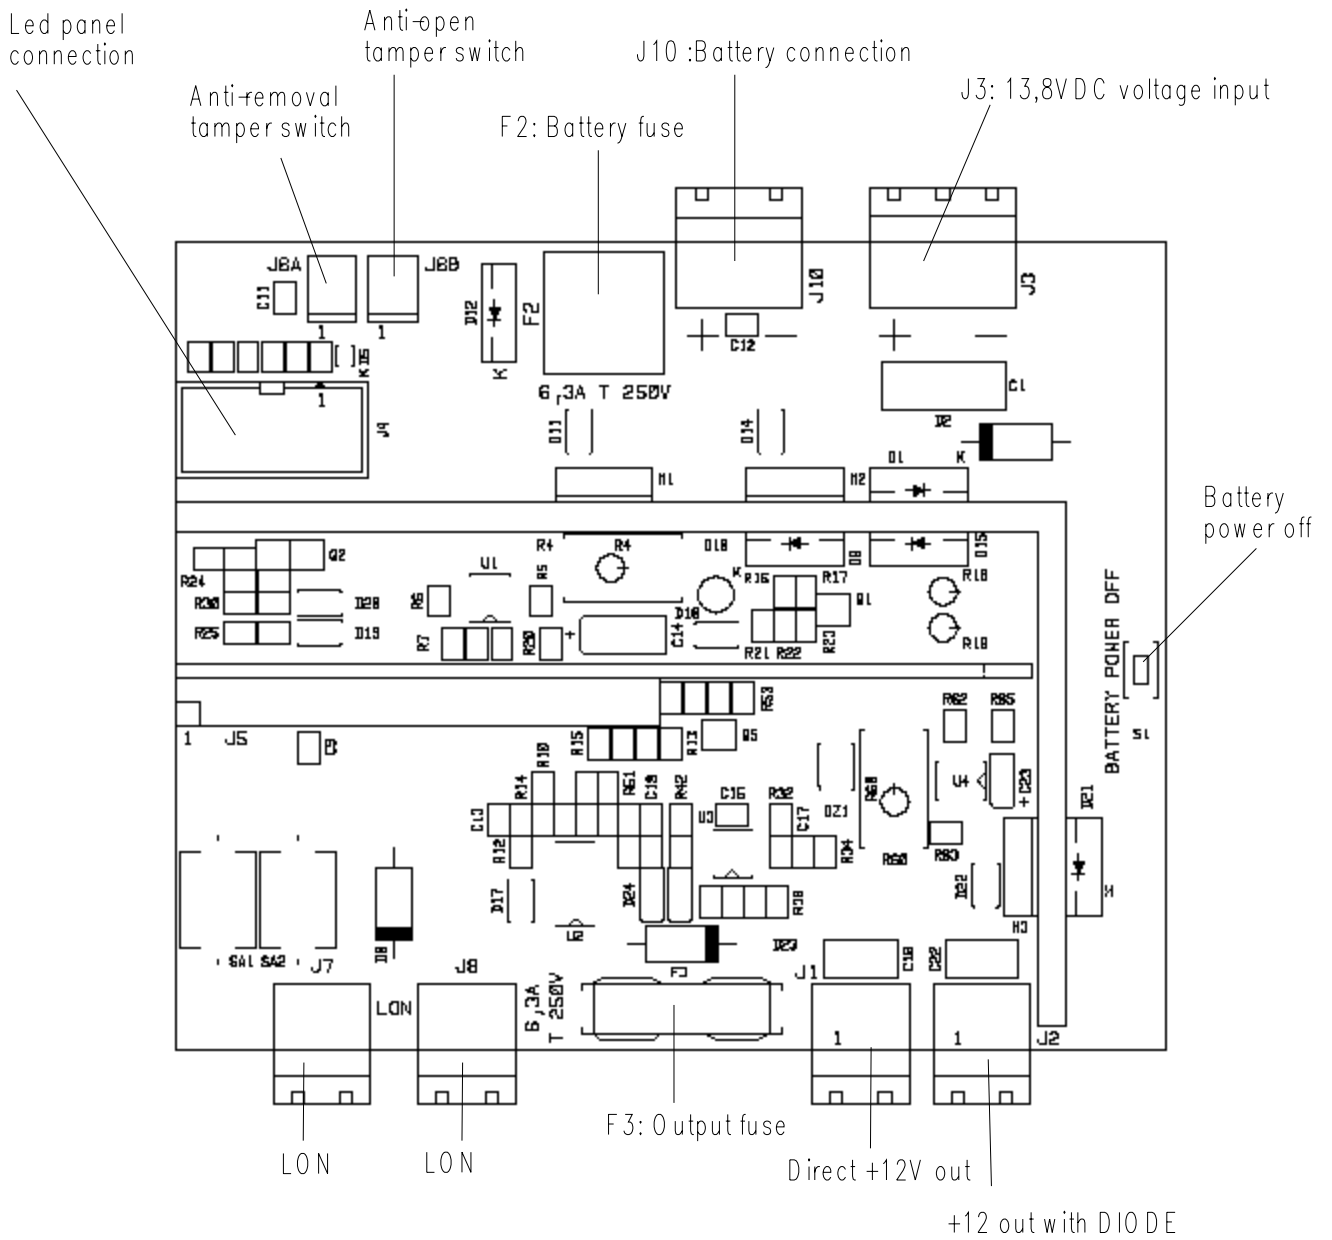

Figure 12. Elemental Detail (electronic board)
- If the F3 output fuse is still whole and the voltage is <10.5V, then the input voltage at J3 must be checked (see Figure 12):
- Disconnect the battery and use a tester to check the voltage on the J10 terminal (see Figure 12);
3. Hold down the 'Battery Off' button for 2 seconds (see Figure 12).